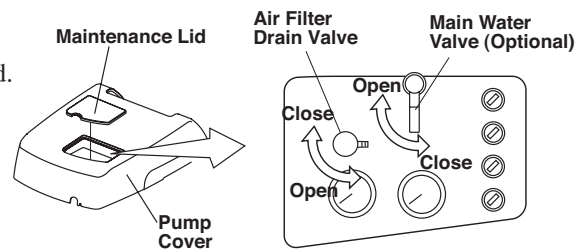

Fig.5-6 Air Filter Drain Valve and Main Water Valve
(5) Air Filter Drain Valve (Fig.5-6)
(6) Main Water Valve (Optional)(Fig.5-6)